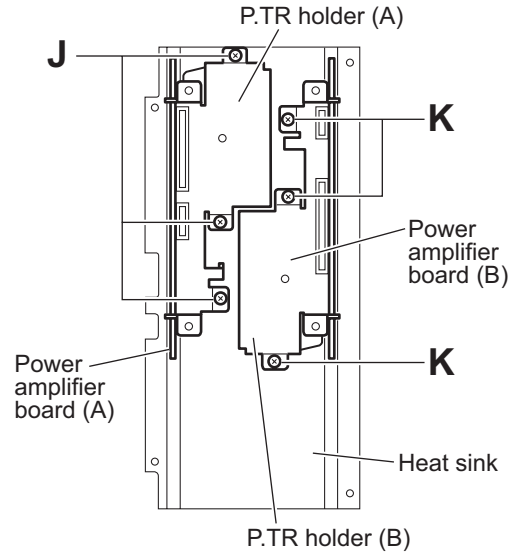

Fig.8
(See Figs.8 and 9)
- (1) Remove the three screws **J** attaching the heat sink to the power amplifier board (A). (See Fig.8.)
(See Figs.8 and 10)
- (1) Remove the three screws **K** attaching the heat sink to the power amplifier board (B). (See Fig.8.)